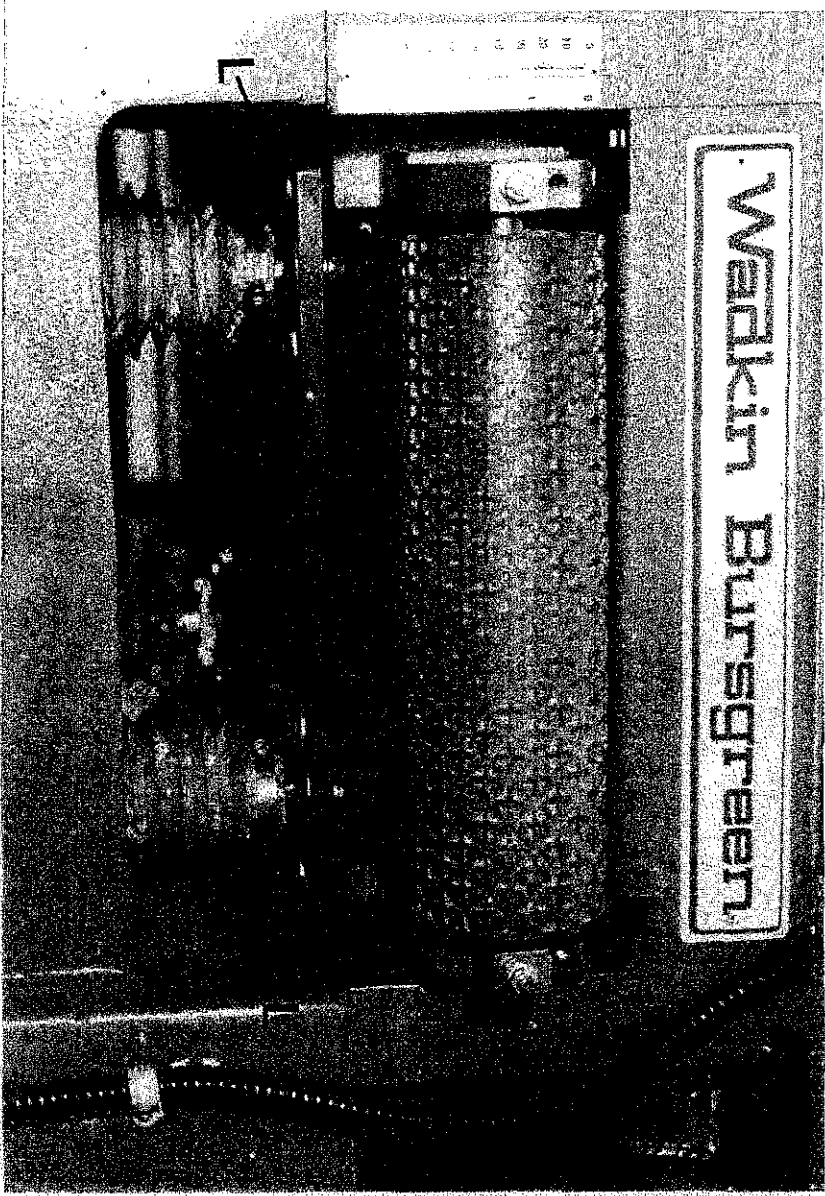

Fig 39
- 15) Remove 4 - M10 hexagon bolts "L" FIG.39.